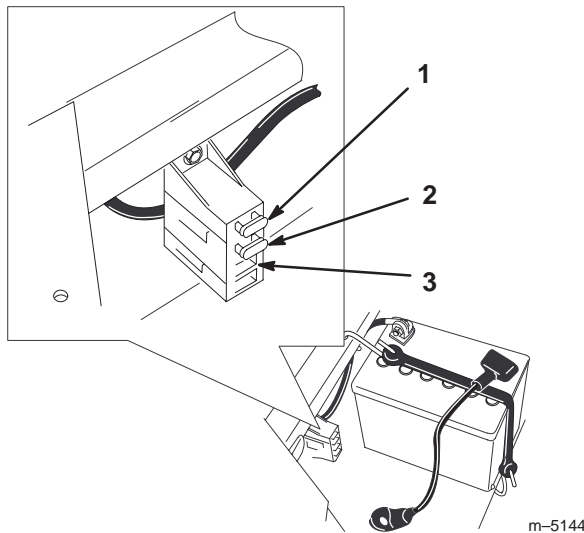

Figure 27
1. Raise the seat to gain access to the fuse holder (Fig. 27).
2. To replace a fuse, pull out on the fuse to remove it (Fig. 27).